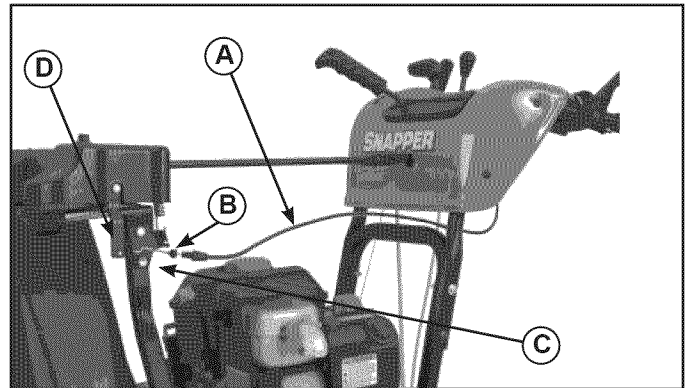
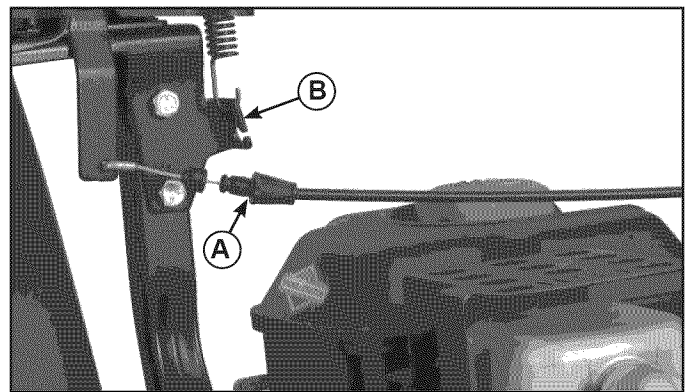

Figure 11. Spout Rotator Brake Cable
Figure 12. Plastic Fitting
1. Slide spout rotator brake cable (A, Figure 11) between dash and the handle cross bar as shown.
2. Slide rubber dust cover (B) off of plastic fitting as shown.
3. Place "Z" bend of cable (C) into hole of brake lever assembly (D).
4. Pull plastic fitting (A, Figure 12) behind bracket (B).